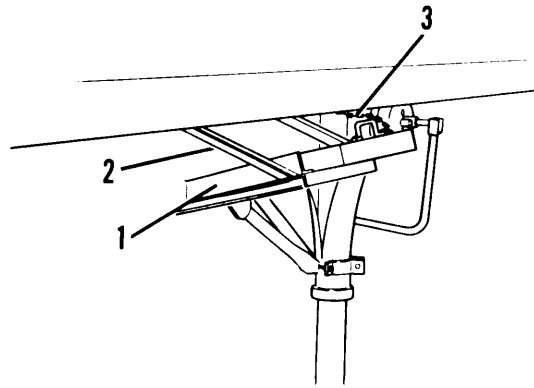

Figure 2-2. Float Pad (Ground Board Assembly)
- a. Two float pads (1, fig. 2-2) are provided for placing under landing leg feet to keep them from sinking into soft ground.
- b. Stored in brackets (2) welded to frame.
- c. Float pad chain (3) is welded to the frame.